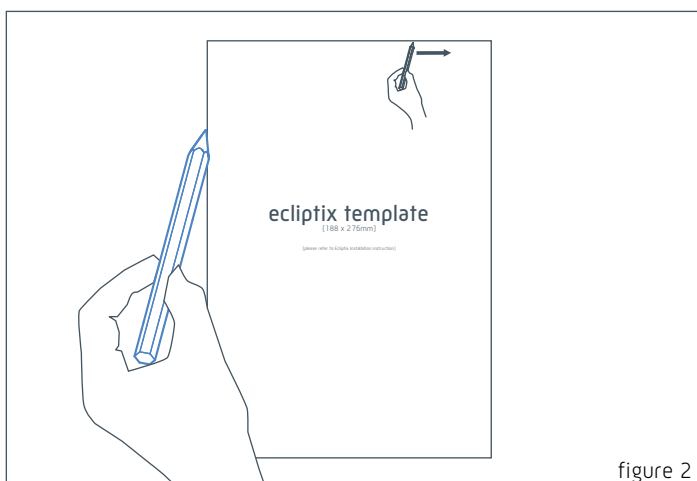

figure 2
- Once the correct position for the speakers has been determined, use the paper template marked 'ecliptix template' to trace the required cut-out onto the ceiling/wall. (figure 2)